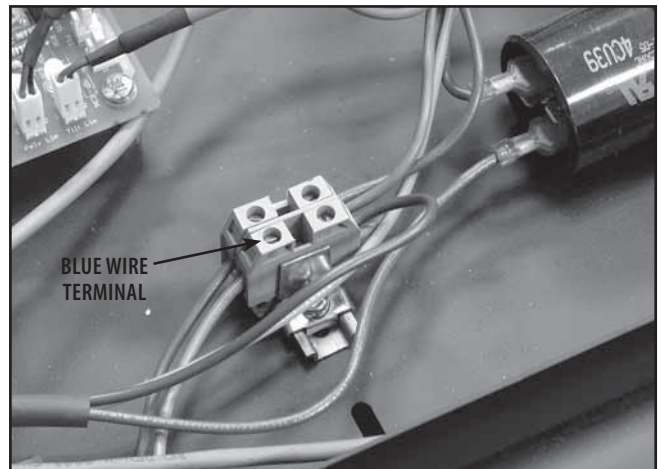

FIGURE 4.9
4. Connect the Red Lead of the Digital Multimeter to the Blue wire on the input side of the Terminal Block. See Figure 4.9.